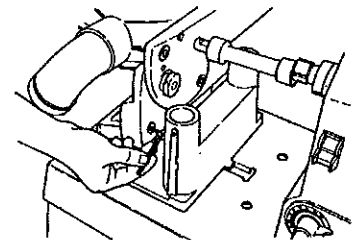

Fig.F-4
8. Loosen the two setscrews in the Belt Sander which lock in the tubes. The setscrews on the carriage should still be loose. See Fig.F-4.